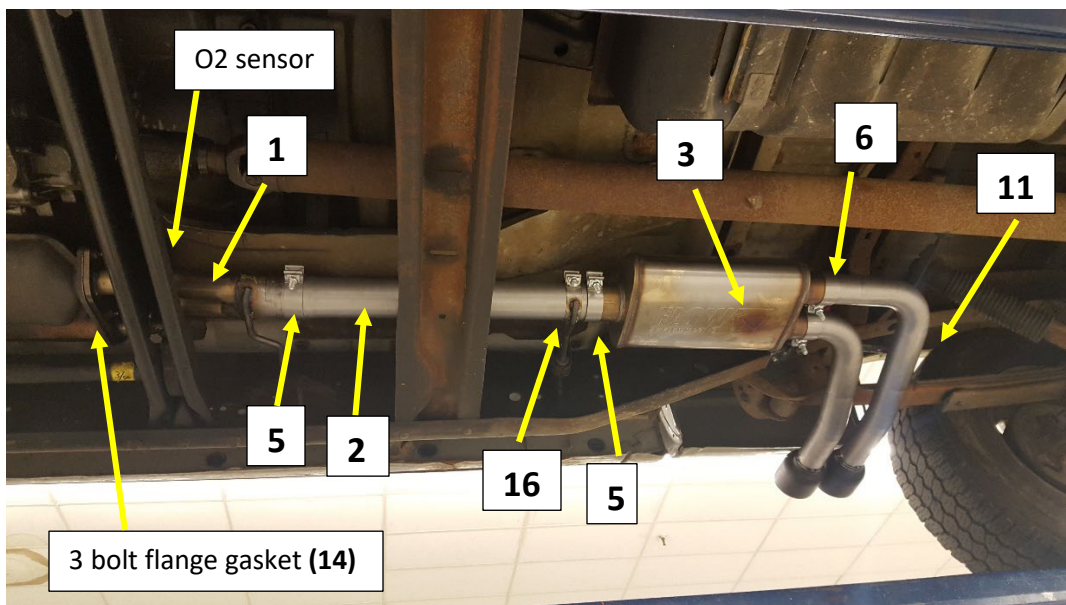

Figure.3 (Extended Cab SB Shown)
Note: Clean all the old gasket material from the flange. **Fig.3**
2. Install the Inlet pipe assembly **(1)** on to the 3 bolt Catalytic converter flange. Install the OEM M10 x 1.5 nuts and tighten. **Fig.3**
5. Install a supplied 3" band clamp **(5)** on to the expanded end of the extension pipe **(2)** **Fig.3.**
6. Install the extension pipe on to the inlet pipe **(1)** and tighten the band clamp. **Fig.3**
9. Install the muffler **(3)** on to the Flowmaster inlet pipe (117' WB) or on to the extension pipe **(2)** for all other wheel base vehicles **Fig.3.** Tighten the clamp to allow for adjustment. Rotate the muffler to be level and tighten the clamp.
10. Install a 2.5" band clamp on to each of the muffler outlets **(6)**. **Fig 3**
11. Install the tail pipe assembly **(11)** into the muffler. **Fig.3**